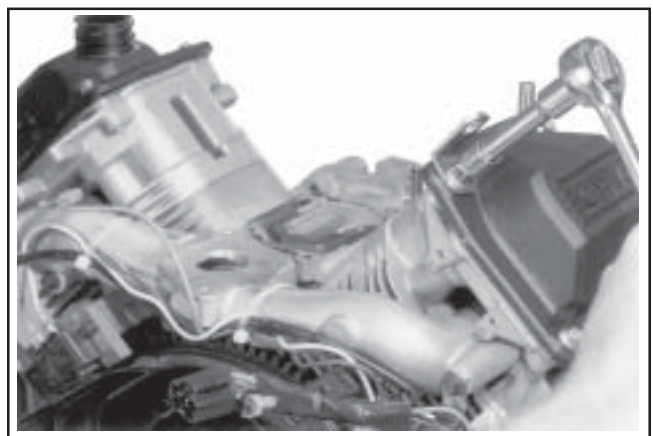

Figure 9-45. Removing Valve Covers.
2. Remove the valve covers, valve cover gaskets or O-Rings and any brackets or lifting straps. Note which side of the engine has the oil fill and or fuel pump valve cover. See Figure 9-45.